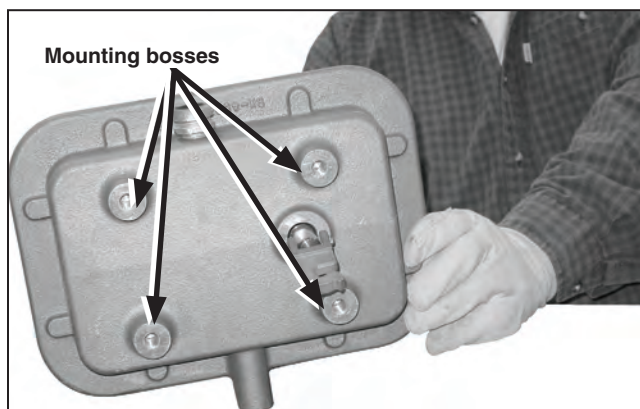

Figure 33. Locate mounting bosses.
- STEP 2.** Locate the four mounting bosses on the top of the motor. See Figure 33. Align the mounting bosses with the holes in the motor brackets. Rotate the headhook, if necessary.